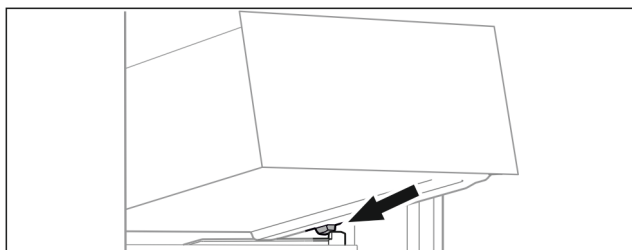

Fig. 59
- ▶ Place drawer at an angle behind the stoppers on the moulded rib. (see Fig. 59)